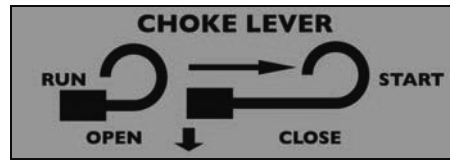

Figure 13- Pull choke out for closed position.
5. Move the choke lever to the “Start” position (see figure 13).
5. Move the choke lever to the “START” position (see figure 13).